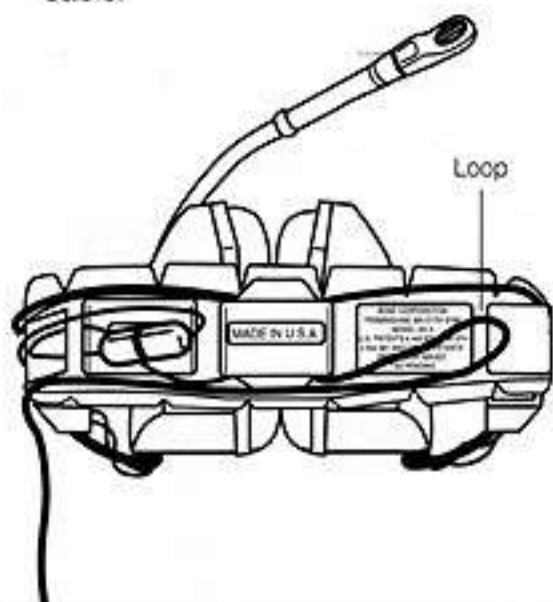

Figure 8
3. If you are changing it from right side to left, route the cable in a small loop to the right of the molded block in the center of the headband, then to the left and along the back of the headband (see Figure 8). This step prevents excessive strain on the cable.